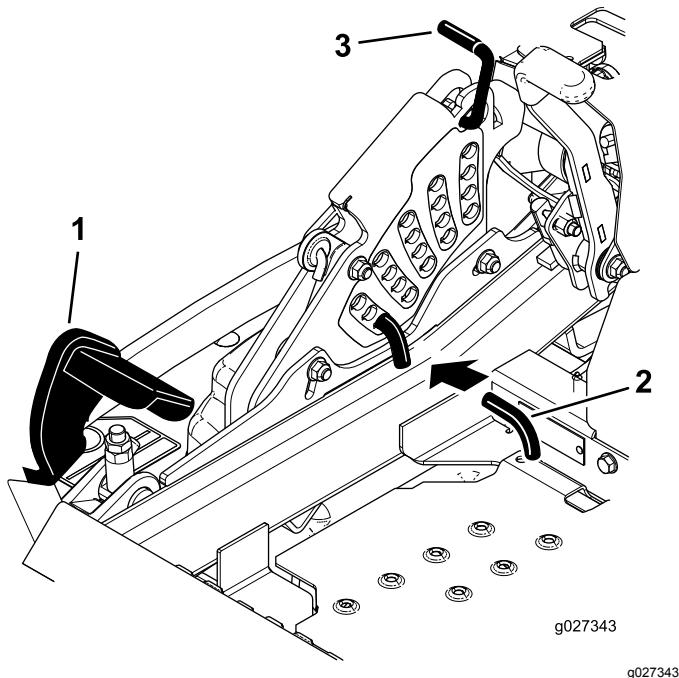

Figure 104
5. Push the deck-lift pedal all the way forward and the deck latches at the 14 cm (5-1/2 inch) transport position (Figure 104).